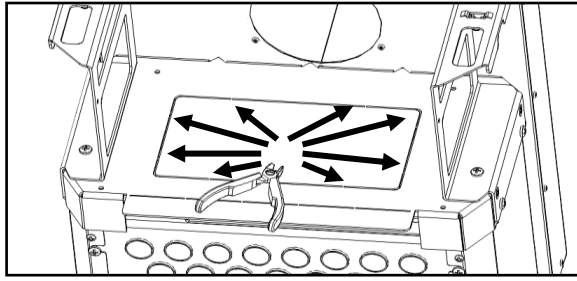

Figure 109 – Removing top cover
e) Tighten the Figure 109 assembly on the top face of the combustion chamber using 4 screws **A** (DIN 7981 5,5x13) in the holes prepared for this purpose (2).